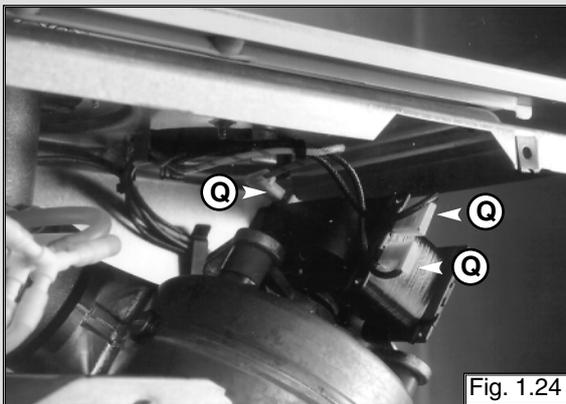

Fig. 1.24
1. Disconnect electrical connections "Q" (see fig. 1.24);